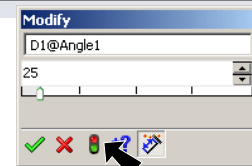

Fig. 2
Step 4. Change **Angle to 25°** in the Modify dialog box, click **Rebuild**  and **OK** , **Fig. 2**.